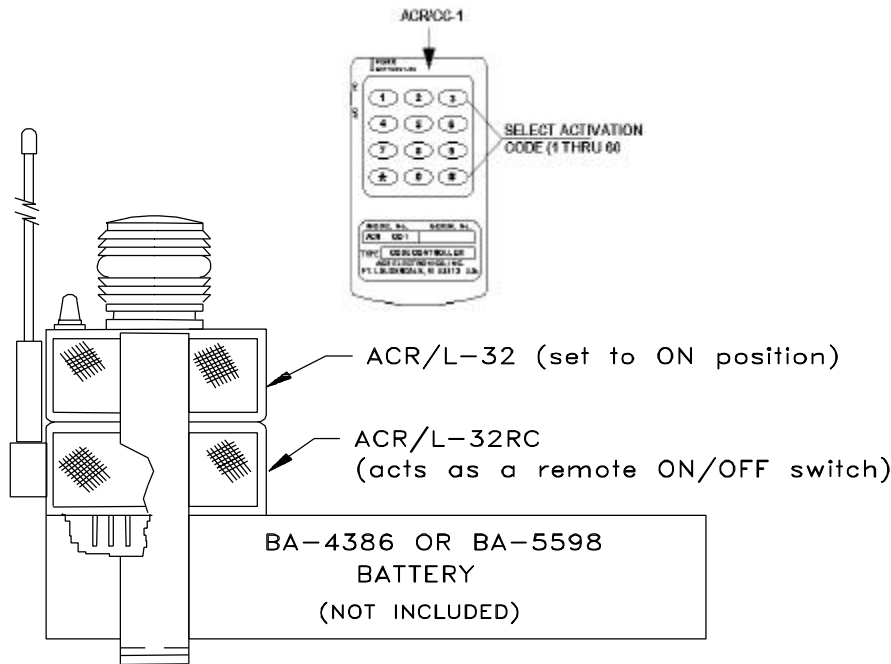

Figure 5: ACR/L-32 / L-32 RC Combo Remote Light System
The combination **ACR/L-32/L-32RC** (*Figure 5*) or the **ACR/L-32 RCL** (*Figure 6*) system is operated in conjunction with the PRC-77 or an equivalent FM transmitter to which the **ACR/CC-1** unit is affixed to input ON/OFF codes. Any number of lights may be operated with the system.
B) Remote Control Activation of the ACR/L-32, ACR/L-32RC Combination (See Figure 5)